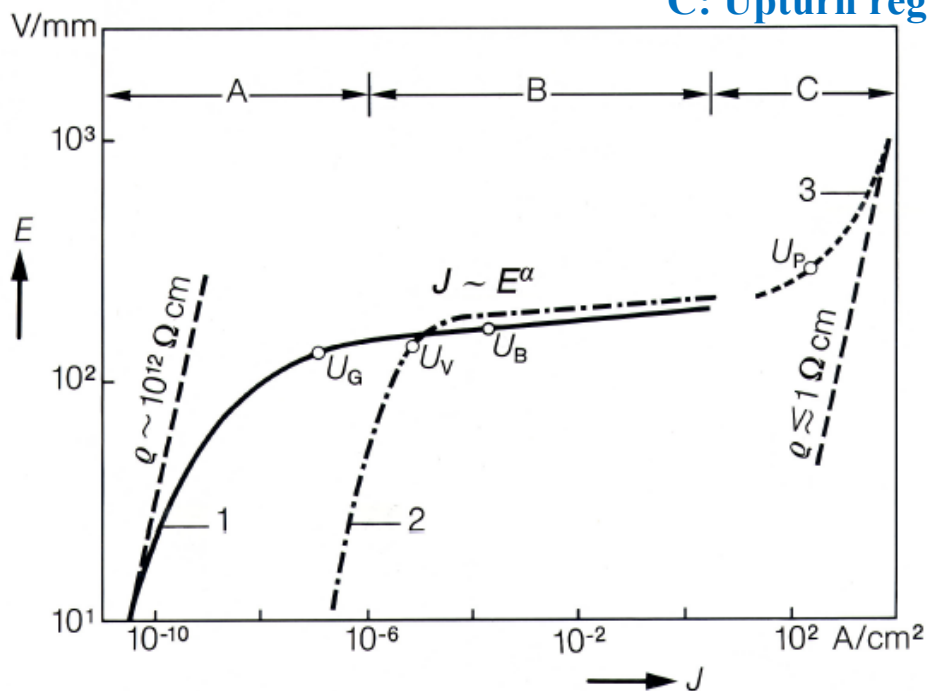

Fig.3 Log-log plot of the normalized $J(E)$ - characteristics of a typical ZnO varistor
- As seen from the breakdown area of V-I curve (Fig.3), when the current changes from mA to kA, the voltage growth is small.